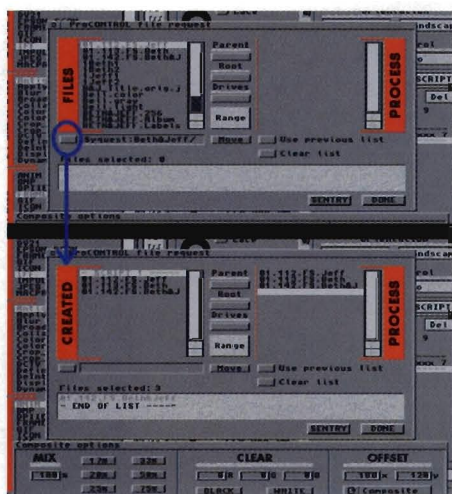

Figure 3
11. Double-click the IFF or Universal Loader. Instead of picking a directory, click on the small button below the red Files rectangle (circled in blue in Figure 3). Even though
they do not yet actually exist, you will be presented with the list of files that will be saved by your preceding scaling subscripts, shown as the created list in the lower half of Figure 3. It's a real time saver! As before, click the first file of your first batch, click on Range, then click the last file for that batch (i.e., all those files that were originally 900x200). Do not select any files that are of a different
12. Before leaving the requester window, set up your compositing in the Composite Options window below the requester (Figure 3). Leave Mix at 100%, click Black in the Clear section, make sure to click the cycle button in the lower right corner so Composite replaces Replace and then plug in the X and Y Offset numbers that you wrote down earlier for that particular batch of images. Finally, click Done. A Loader IFF or Loader Universal command line will appear in your script under the Loader Backdrop line.